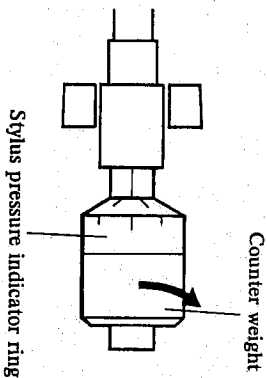

Fig. 8
2. Rotate and set the stylus pressure indicator ring to "0" position. Rotate the counter weight clockwise until the stylus pressure indicator ring indicates 2.5 (Fig. 8)